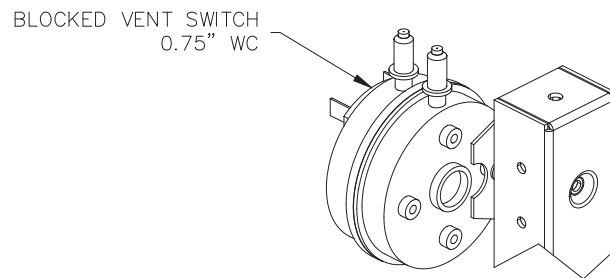

Fig. 32: Blocked Vent Switch
1. Gas manifold pressure is measured at the pressure tap between the gas valve and gas orifice (See Fig. 32).